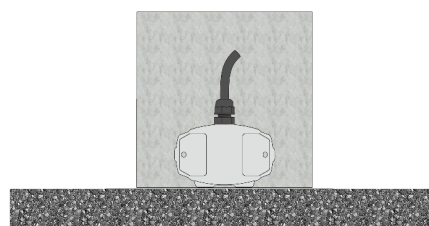

Figure 36. Compact Sensor Module Position of Calibration Step 2
- Locate the sensor module as following Figure 36. The sensor is ready for user to perform calibration step 2